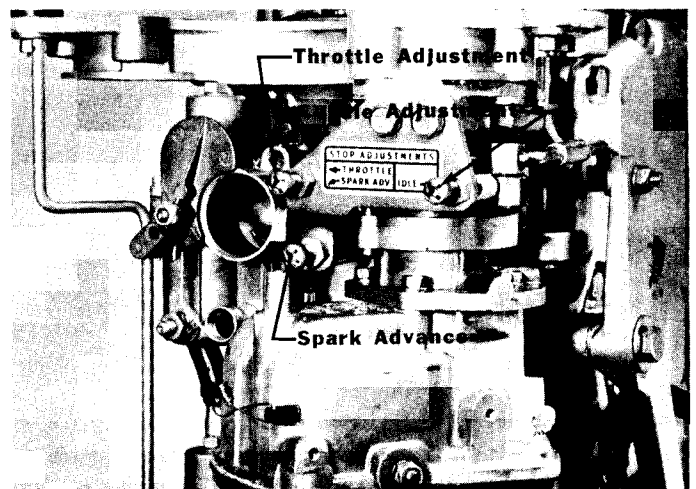

Figure 2. Magneto Stop Bracket Adjustment
11. Hold magneto in this position and adjust spark advance screw to just touch pilot assembly and tighten lock nut. (Figure 2)